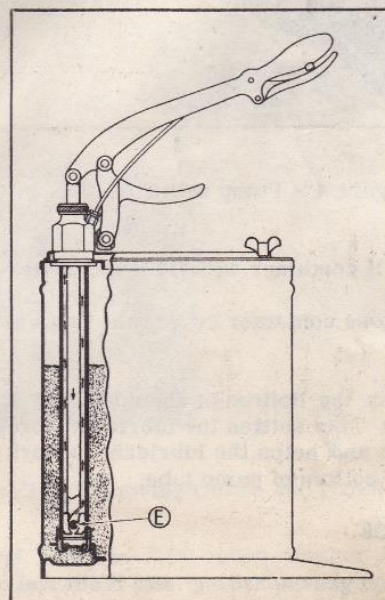

Figure 3 - Upstroke of Handle
The upstroke of the handle causes the piston to travel downward through the tube as shown in Fig. 3. This action forces the flapper valve to close, thus trapping the lubricant. Lubricant pressure forces the ball (E) off its seat allowing the lubricant to flow upward through the piston. Therefore, continuous pumping forces the lubricant out through the hose assembly.